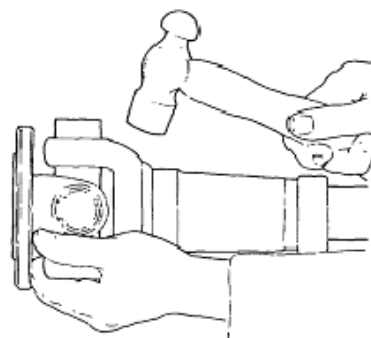

Figure 78 Bearing Cup Removal
- b. Tap the yokes to eject the bearing cups (Figure 78).